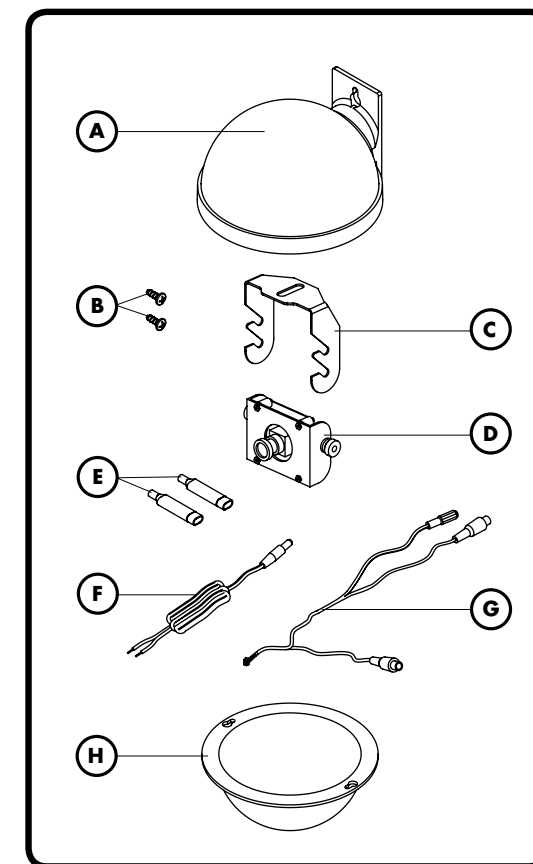

FIGURE 1
COMPONENT LIST [FIGURE 1]
1. Carefully unpack box and verify that all components listed are included [**FIGURE 1**].
2. Remove the dome assembly from the upper housing by loosening the two (2) 4 - 40 x 3/8" Phillips-head screws with a #1 Phillips screwdriver. Turn dome assembly counter-clockwise and set aside, making sure that dome does not become scratched or damaged.